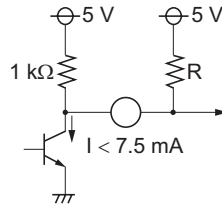

Figure 1
4. The terminal of H, V output pin are shown as Figure 1. It is possible to reduce rise time by insert the resistor between V_{CC} line and H, V output pin, but set the value of resistor in order that the current is under 7.5 mA. Setting the value of R is more than $2 k\Omega$ as shown in Figure 1.